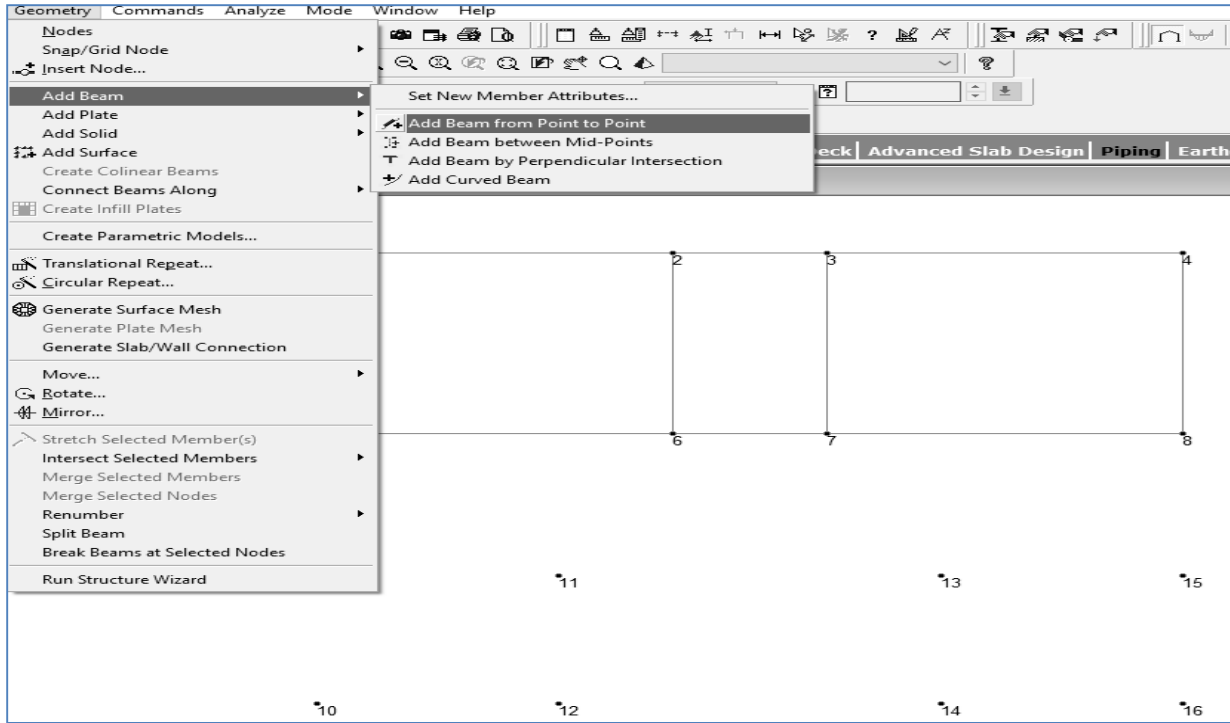

Fig: 5.6
- 1.2.4 For create beam layout: Go to Geometry → Add Beam → Add Beam from Point to Point and then connect the nodes points each other as the given Beam layout plan. Again for interesting beam go to Geometry → Add Beam → Add Beam by Perpendicular Intersection. (Figure: 5.6 and 5.7)